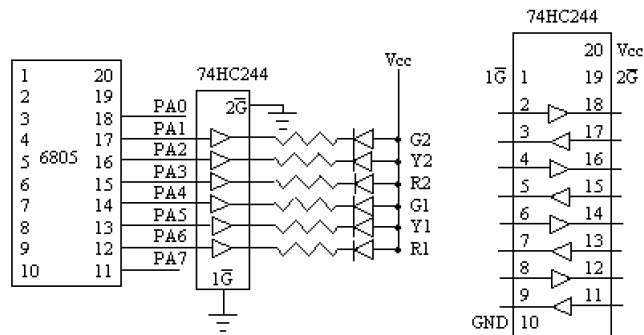

Figure 2. Port A Interface Hardware
1. Using the M68HC705JICS kit and protoboard, connect the 6805 extension pod to the 74HC244 buffer and LEDs as illustrated in figure 2.